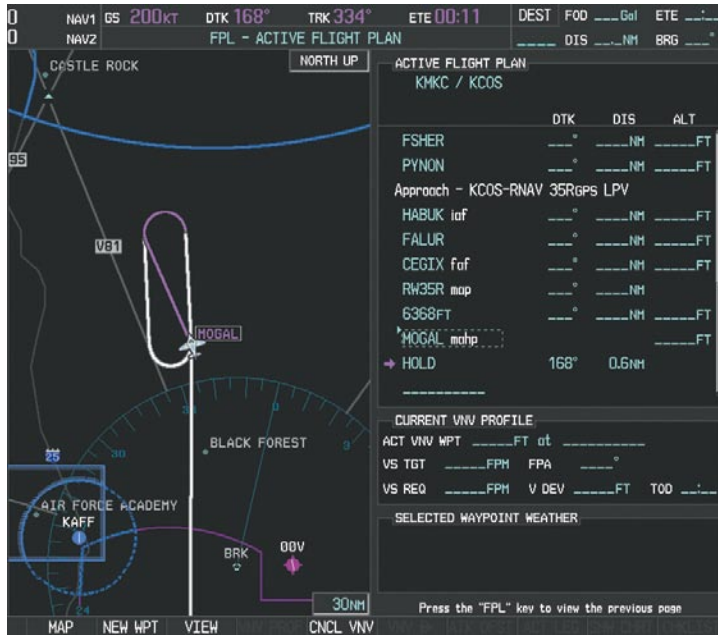

Figure 5-145 Establishing the Holding Pattern
- 26) The aircraft continues climbing to "AT or ABOVE" 10,000 feet at MOGAL. A holding pattern is established at the MAHP (MOGAL) as shown in Figure 5-145.